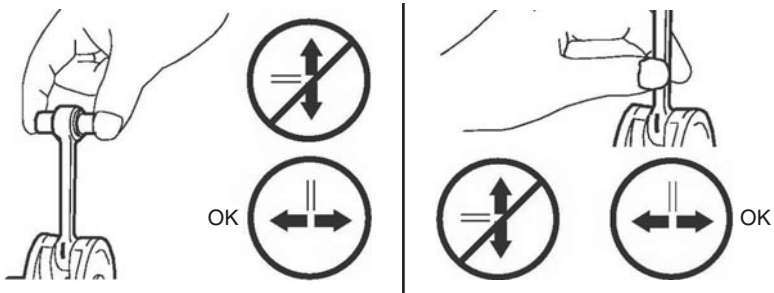

FIG. 6-19. An experienced mechanic can evaluate bearing condition by feel. Wacker Neuson
After detaching the piston, turn the flywheel to bring the rod to top dead center (TDC) and using Fig. 6-19 as a reference:
- And finally, tilt rod on the big-end bearing as was done with the wrist pin and its bearing. If the upper end of the conn rod arcs an eighth inch or more, the rollers have worn conical—that is, they are thicker in the middle than on the ends. Tapered big-end bearings create side forces that can drive the wrist pin into the cylinder wall. And finally, note that the eighth-inch-tilt specification is arbitrary. Less is better (Fig. 6-19).